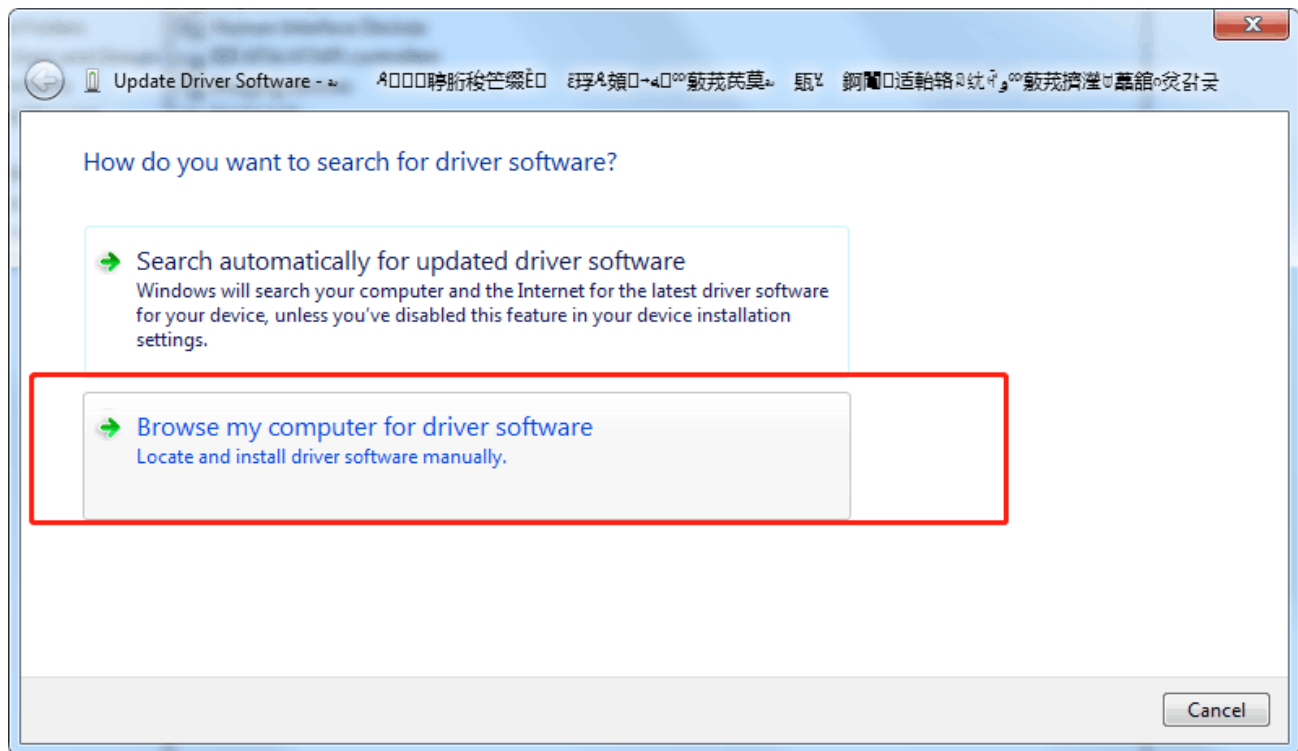

图 1.4
- 4) Click "browse the computer to find driver software" as shown in figure 1.4, and click "browse" as shown in figure 1.5